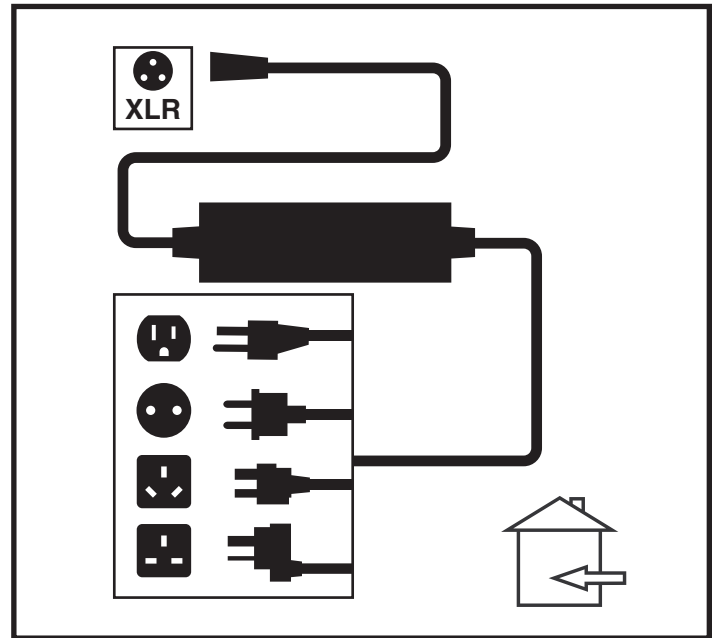

Figure 13. Battery Charging
3. Plug the off-board charger into the off-board charger/programming socket on the controller. See figure 13.